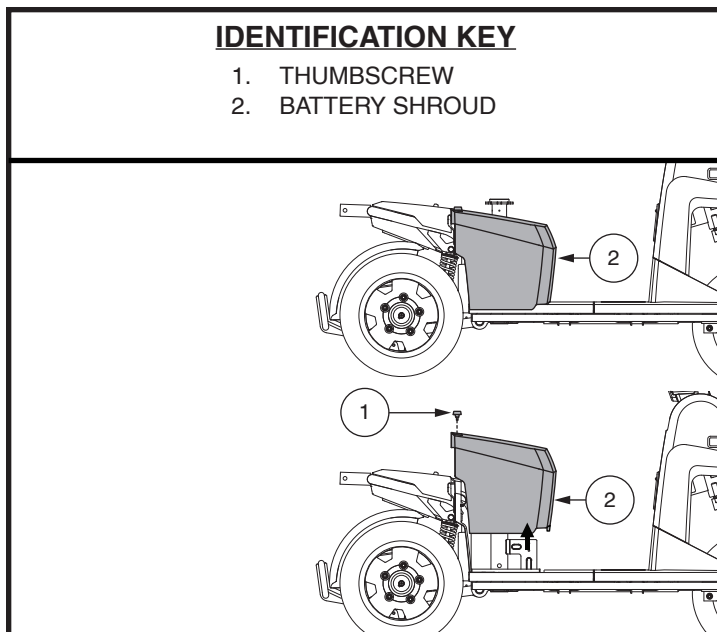

Figure 11. Battery Shroud Removal/Installation
1. Remove the seat and battery shroud. See figure 11.